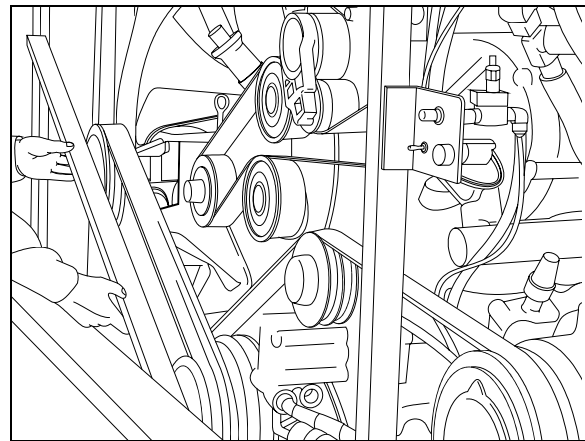

FIGURE 19: PULLEYS ALIGNMENT 05064
3. Using a straight edge, align the 3"V" pulley on gearbox central shaft pulley with engine pulley, while taking pulleys outer edge thickness under consideration i.e. 3"V" pulley's outer edge is thicker than that of engine pulley's (Fig. 19).